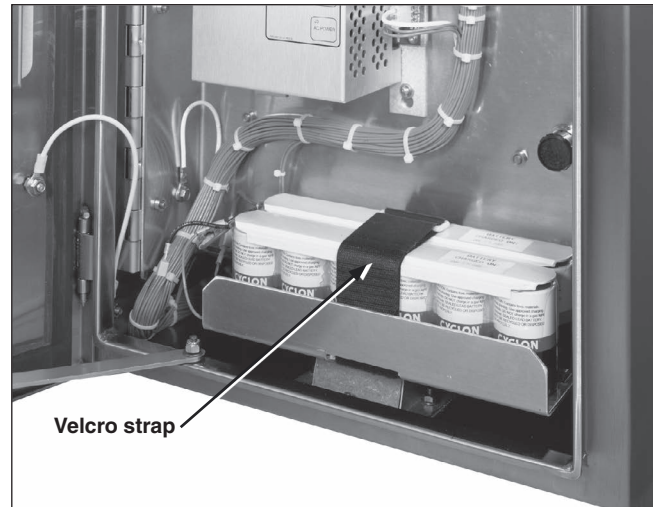

Figure 23. Unfasten the Velcro strap securing the battery packs.
- (d) Unfasten the Velcro strap securing the battery packs. See Figure 23.